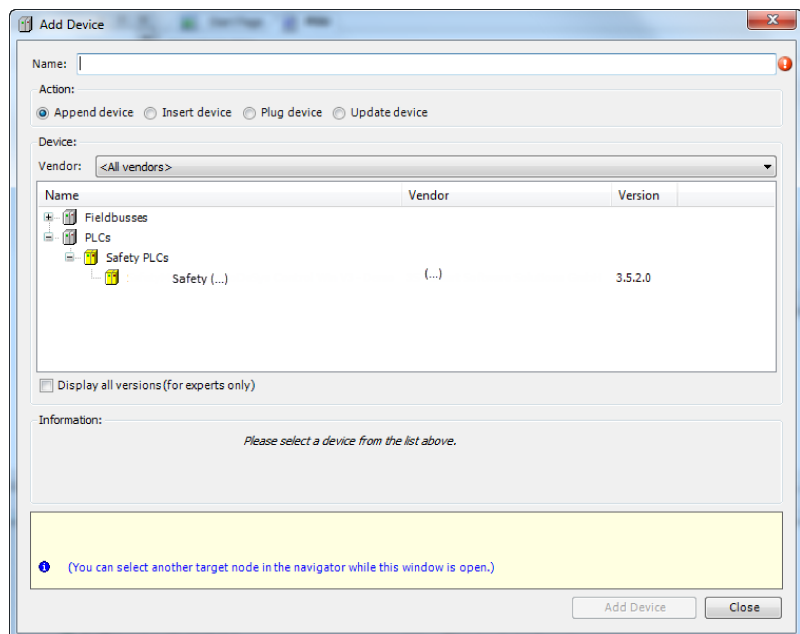

Fig. 12: Dialog for inserting a safety controller
6. ▶ Add the standard controller to the safety controller (in the example Fig. 12): Select the standard controller, activate the *“Insert device”* context menu command and select safety controller (see Fig. 12).